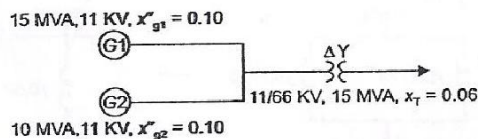

Fig. 8.7: Circuit diagram of Example 8.5.
**Example 8.5:** Two generators G1 and G2 are rated 15 MVA, 11 KV and 10 MVA, 11 KV respectively. The generators are connected to a transformer as shown in Fig. 8.7. Calculate the subtransient current in each generator when a three phase fault occurs on the high voltage side of the transformer.